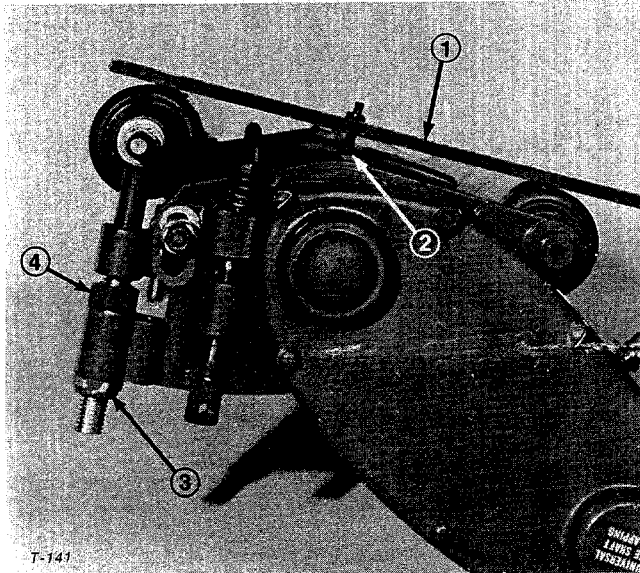
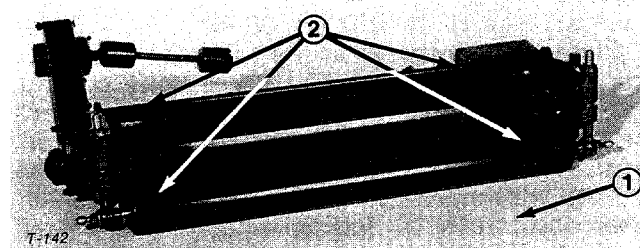

Figure 22
Figure 23
3. Place cutting unit upside down on bench, position gauge bar on end of unit with one end on front support: skid, full roller, sectional roller, etc., the other end on rear roller (Fig. 22).
4. Loosen top nut on adjusting screws on each side plate (Fig. 22) and turn adjusting nut to raise or lower front roller or skid assembly (Fig. 22). Raise or lower rollers until they contact outer end of gauge bar. When proper adjustment is obtained, screw head on gauge bar will just pass over cutting edge of bedknife (Fig. 22). ASSURE HEIGHT-OF-CUT IS EXACTLY IDENTICAL AT BOTH ENDS OF BEDKNIFE.
5. Tighten top nuts to secure roller adjustment (Fig. 22). Turn cutting unit over and place on a level surface (Fig. 23). Press down on each end of the front and rear rollers (Fig. 23). Each roller should contact level surface completely across unit (Fig. 23). If rollers do not contact, repeat steps 3 and 4.